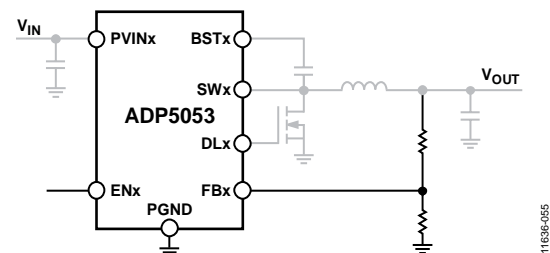

Figure 50. Typical Circuit with High Current Traces Shown in Gray
- Ensure that the high current loop traces are as short and wide as possible. Figure 50 shows the high current path.